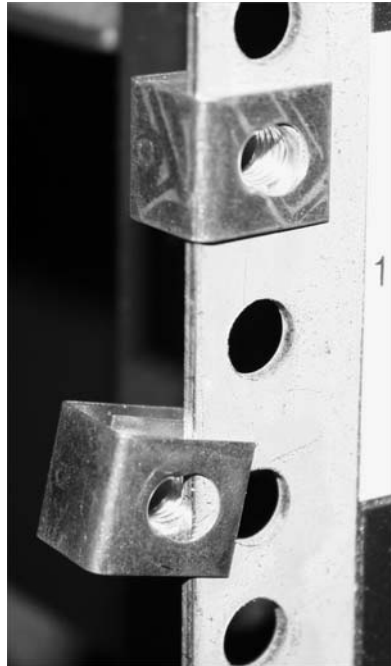

Figure 23. Positioning the clips
2. Position the four “C” clips in the rack’s mounting bar. See Figure 23 on page 57.